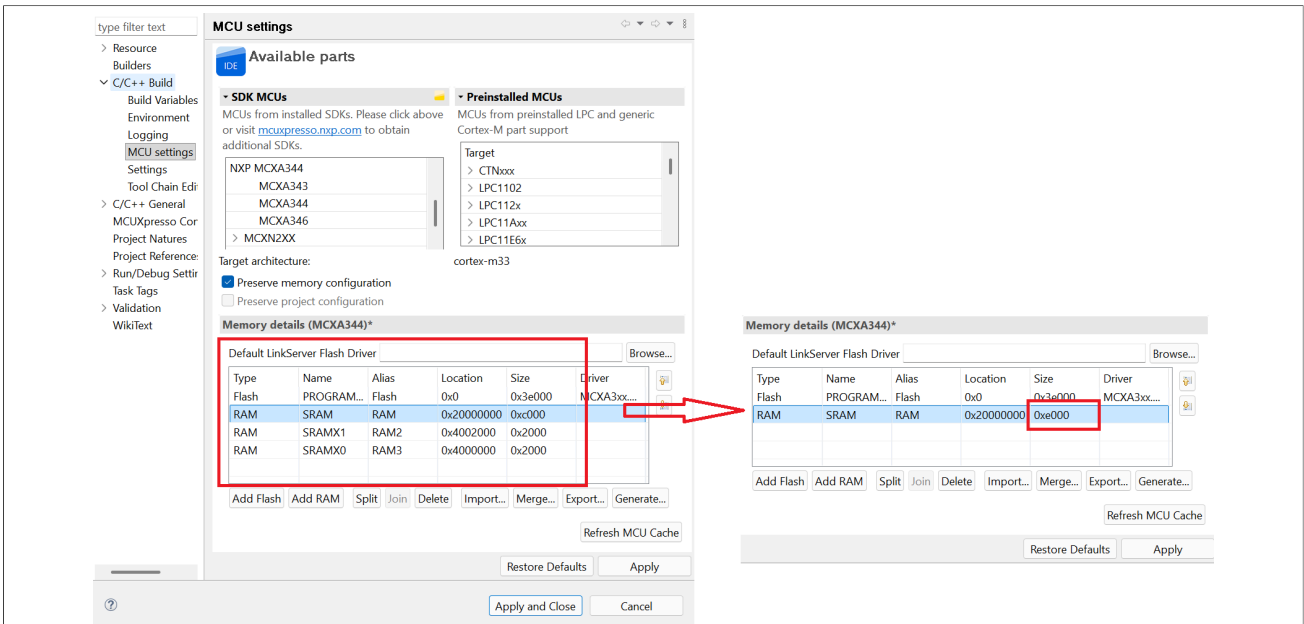

Figure 4. MCX A344 SRAM settings in MCUXpresso IDE
- For MCX A344, as shown in Figure 4: